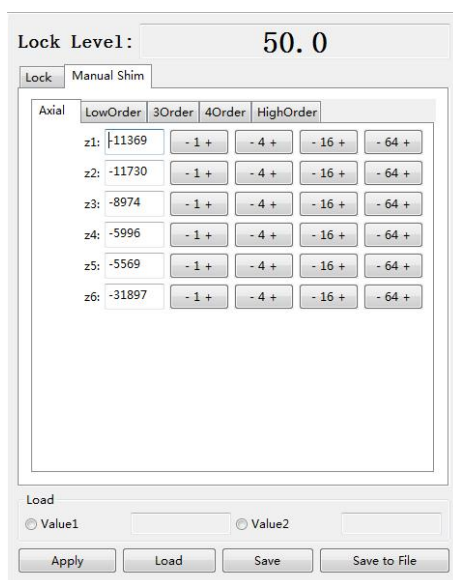

Figure 2.15 Manual shimming interface
1. Click **Acquire > Shim > Manual Shimming**, or click the down arrow of  button on tool bar then select **Manual Shimming** to open **Lock & Shim** panel, with Manual Shim tab being active (Figure 2.15).